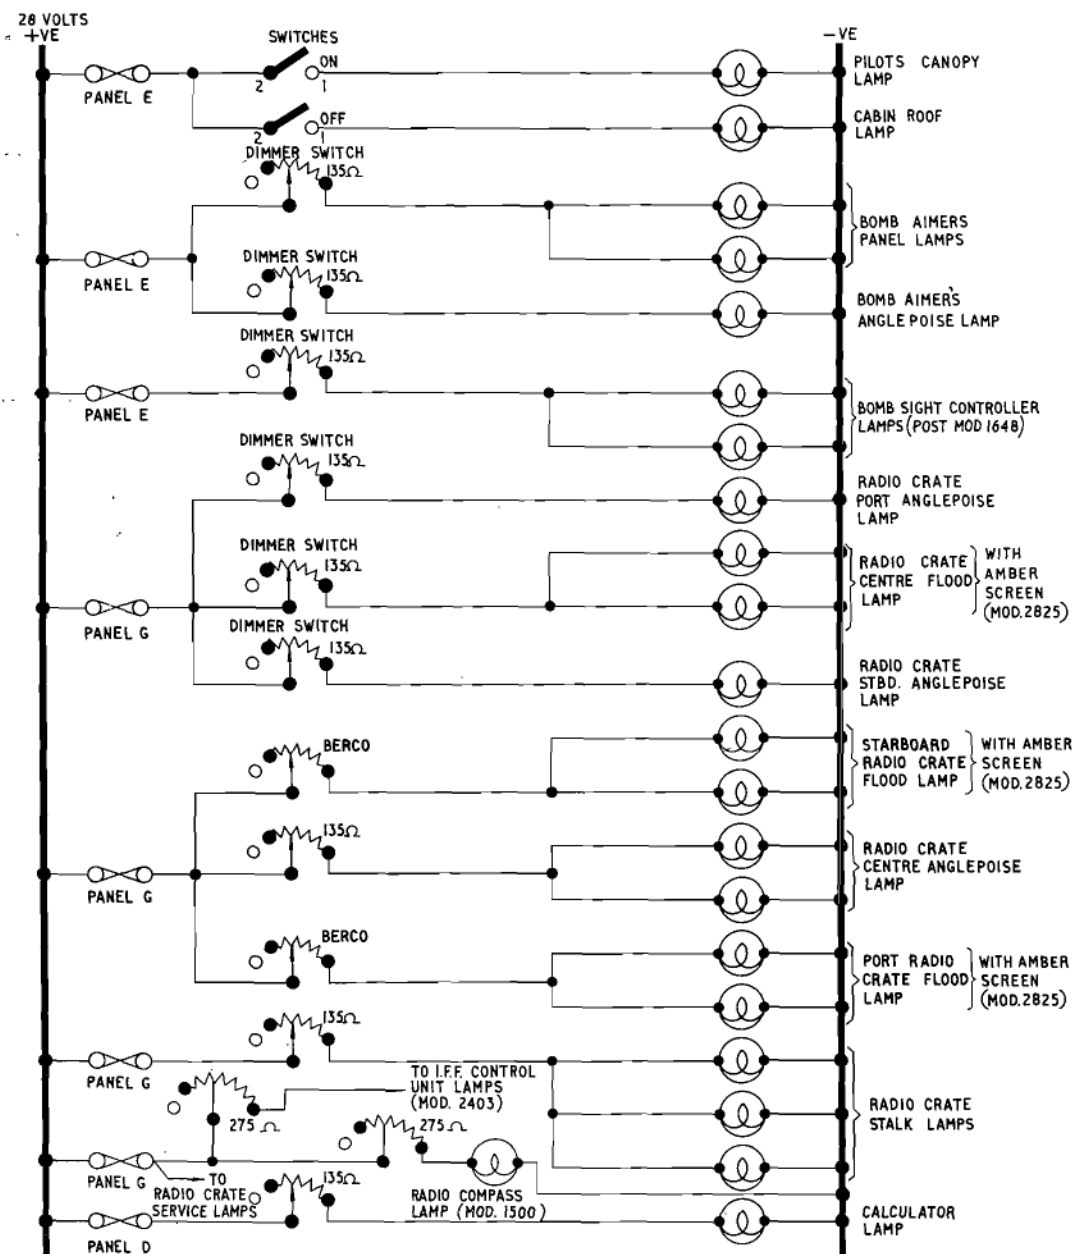

Fig. 7. Crew Lamps
Crew lamps (fig. 7)
Bomb aimer's lamps (fig. 7)
Bomb sight lamps—post Mod. 1648 (fig. 7)
Radio crate lamps (fig. 7)
N.B.S. Calculator lamp (fig. 7)
Radio compass lamp—Mod. 1500 (fig. 7)
I.F.F. Control unit lighting—Mod. 2403 (fig. 7)